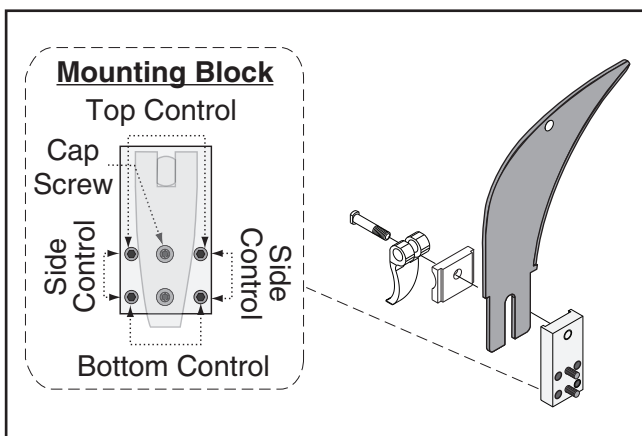

Figure 117. Set screws for adjusting spreader/riving knife position.
Figure 117 shows the set screws associated with controlling the mounting block position.
4. Loosen the two cap screws on the mounting block, then adjust the set screws on the block to move it in the necessary direction (see "Mounting Block" inset in **Figure 117**).